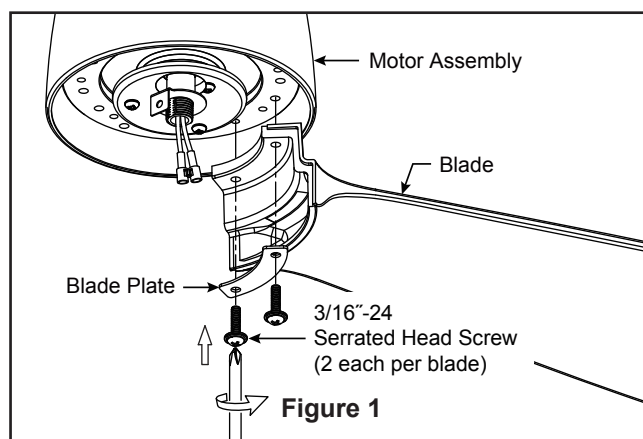

Figure 1
1. Align blade holes with posts on the motor assembly flywheel. Make sure the blade is fully seated against the flywheel. Place blade plate over the blade with holes aligned and assemble blade to flywheel using serrated head screws, fully tighten the screws that attach the blades to the motor assembly flywheel. (Figure 1)